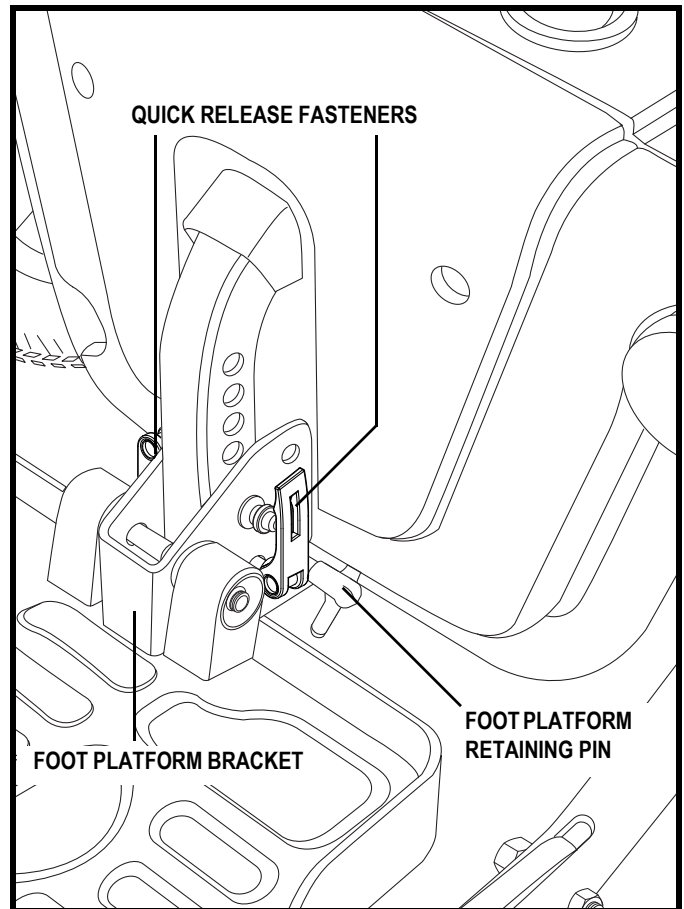
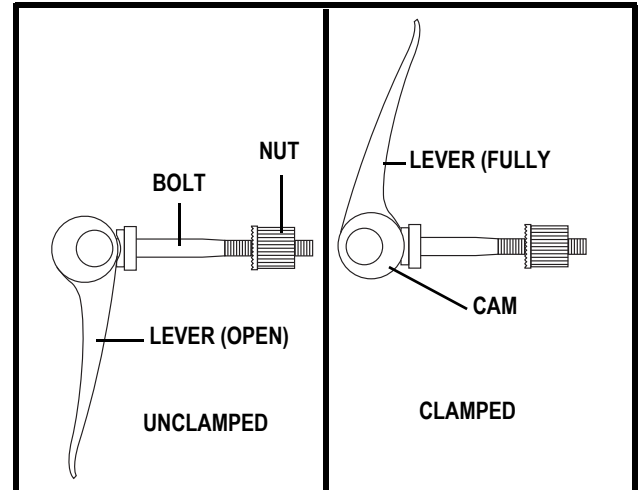

Figure 20. Foot Platform Adjustment
Figure 21. Quick Release Fastener Operation
1. Remove the quick release fasteners from the foot platform bracket. See figure 20.
1. Remove the fasteners from the foot platform bracket. See figure 20.
**Quick Release Fasteners:** The foot platform is attached to the power base with two quick release fasteners. **See figure 20.** Each quick release fastener consists of a bolt, a lever, and a nut. **See figure 21.** The lever has a cam on the end that allows it to clamp into place. The quick release fastener has two states: clamped and unclamped. When the lever is open, the quick release fastener is unclamped. When the lever is closed, the quick release fastener is clamped.